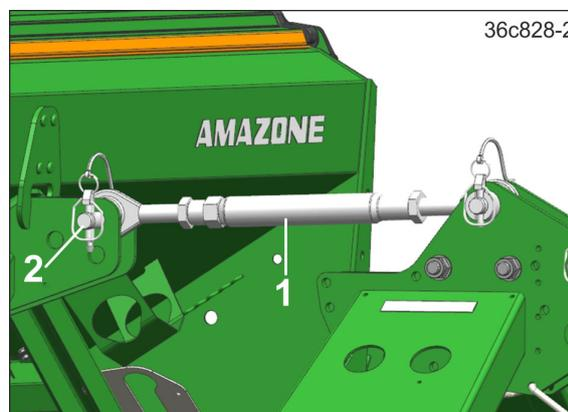

Fig. 130
- Peg the top link (Fig. 130/1) with 2 top link pins (Fig. 130/2) onto the soil tillage implement and the pack top seed drill.